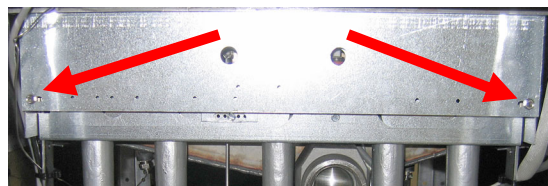

Figure 30
2. Remove the outer cover plate by removing two screws as shown in Figure 30.